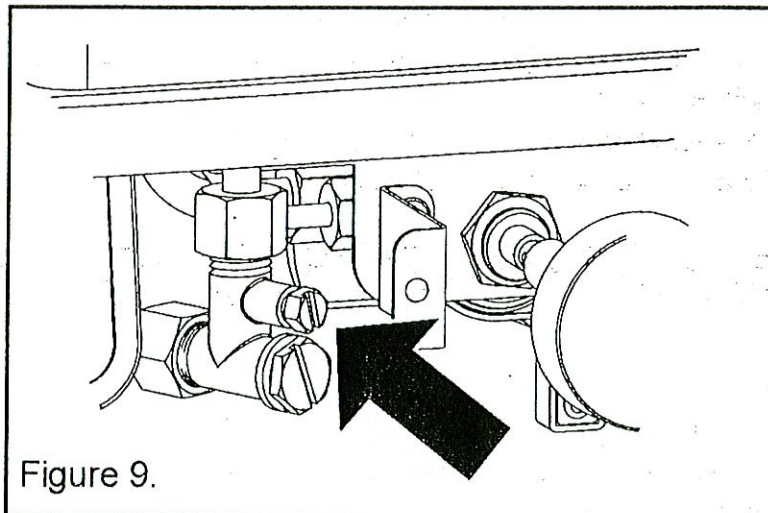

Figure 9.
1. Check the inlet pressure by fitting a pressure gauge at the test point. The test point is on the inlet 'T' connector (See figure 9). Check the pressure with the appliance alight and set at maximum output.